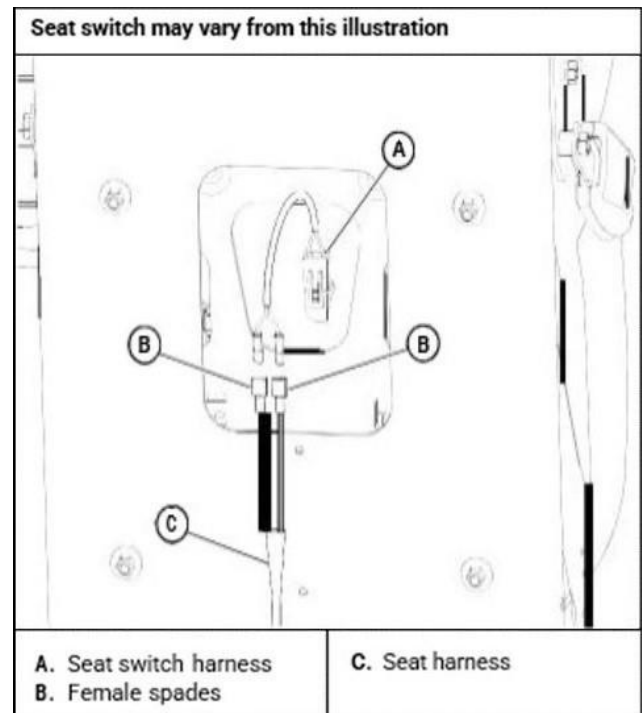

Figure 17
- Reconnect them to the seat switch. This must be completed so that the safety circuit is functioning properly. [Figure 17]